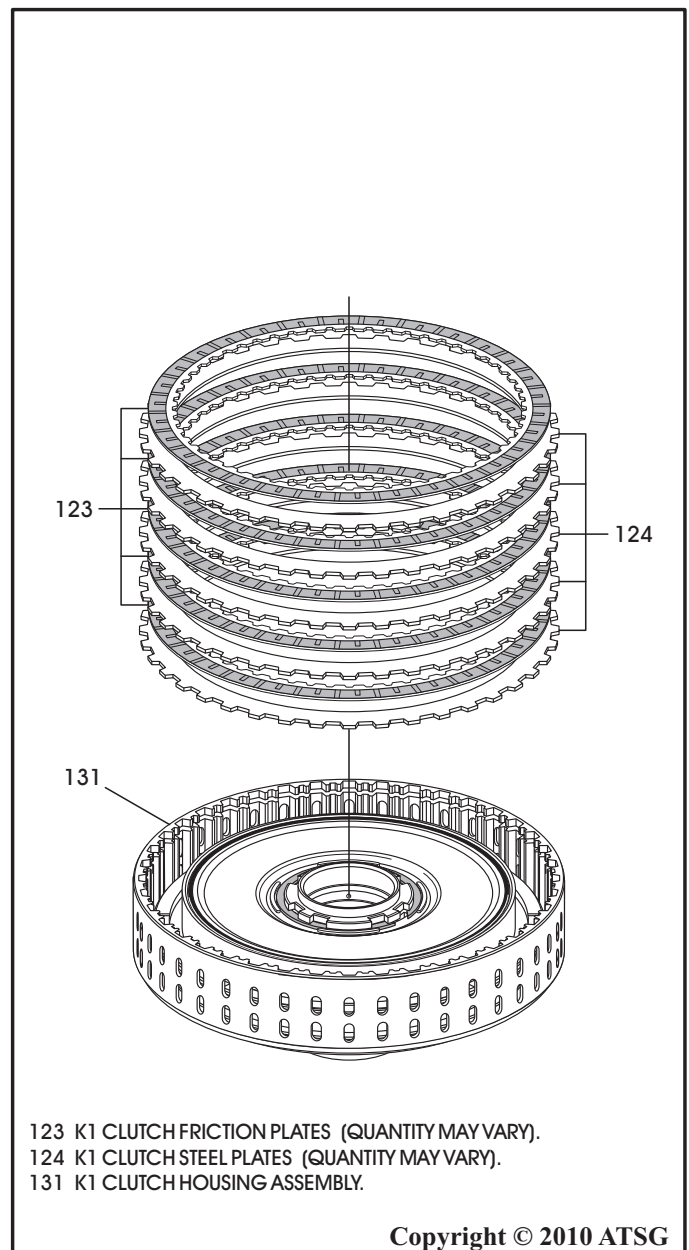

Figure 116
13. Install K1 clutch pack beginning with a steel plate and alternating with frictions, as shown in Figure 116, until you have installed the proper quantity, as the quantity may vary.